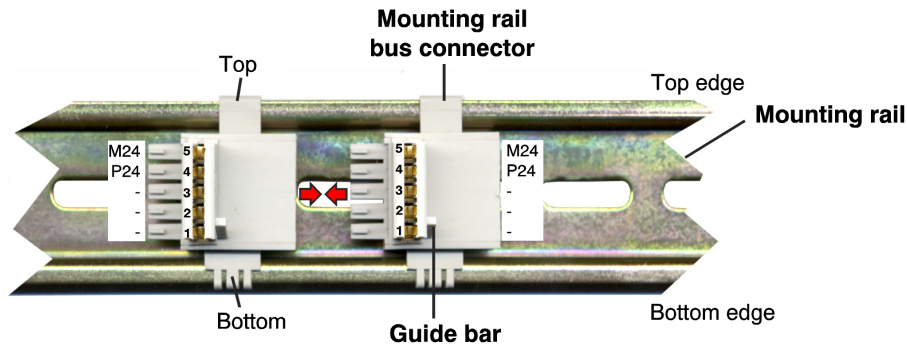

Fig. 31: Mounting rail with bus connector
3. Swivel the CAN-CBX module onto the mounting rail in pressing the module downwards according to the arrow as shown in Fig. 31. The housing is mechanically guided by the DIN rail bus connector.